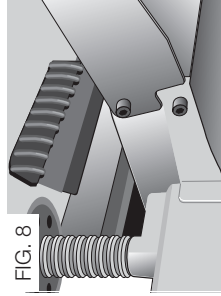

FIG. 8
7. Install the smaller screw into the lower threaded hole on the side of the base. Use the T-wrench to tighten that fastener securely (Fig. 8).
8. Depress the top pin until it is flush with the base and slide the top hole of the table over the pin and release the pin so they lock together (Fig. 8, 9).